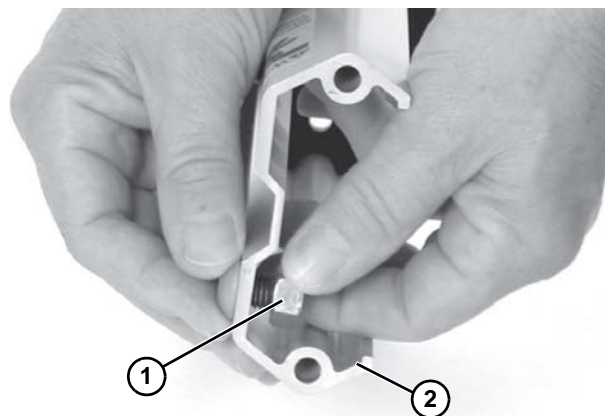

Figure 12
1. Loosen (2) hex nuts (Figure 12, item 1) located on boot assembly (Figure 12, item 2).